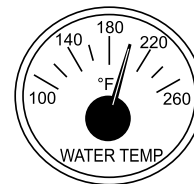

Figure 38. Coolant Temperature Gauge
- The **coolant temperature gauge** (Figure 38) will indicate the coolant temperature. Under normal operating conditions, the coolant temperature should be approximately 180°F (82°C).